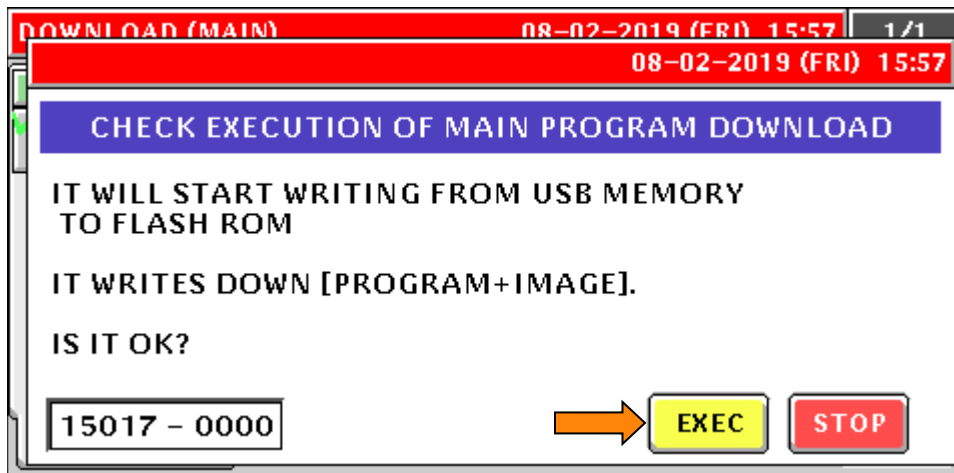

Figure 44. Press **EXEC** to Begin Firmware Download
- r. Press **EXEC** to begin the firmware download. See Figure 44.